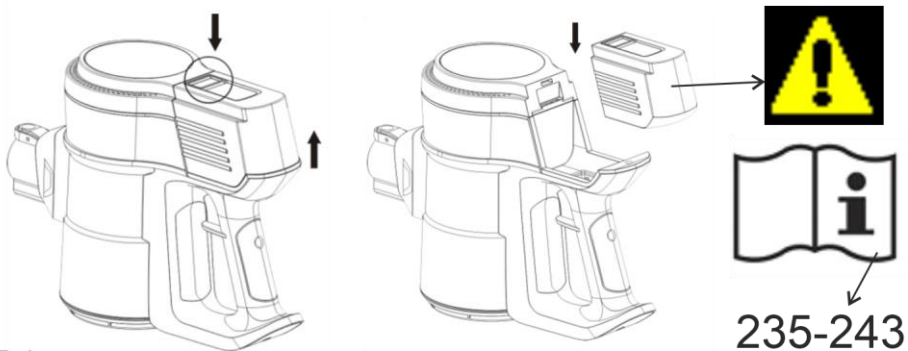

FIGURE 1
Removal and installation of the battery module (13) - see Figure 1.
1. Pull and hold the battery release button (A), then pull out the entire battery module (13). The battery module (13) will be detached from the motor housing (1).
2. Tighten the battery module (13) until you hear a click, which means that the battery module (13) has been properly installed.